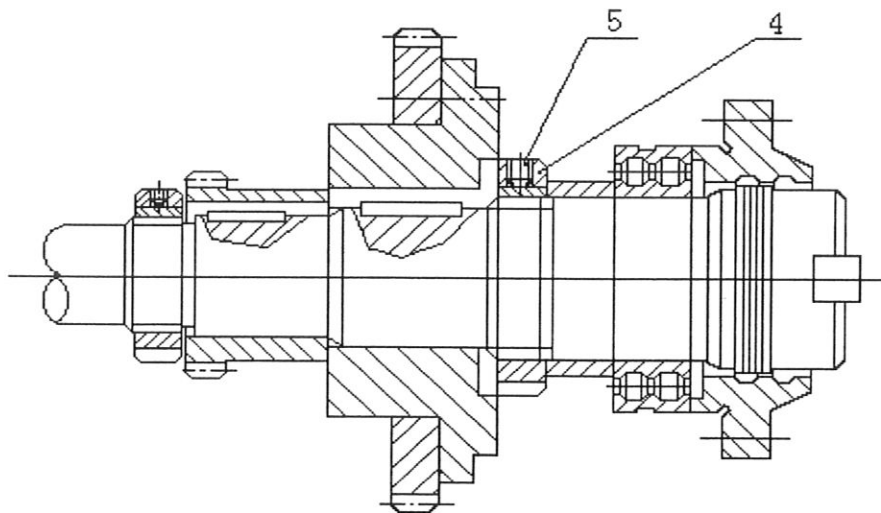

Fig.24 Adjustment of horizontal spindle
7.2 Adjustment of the spindle(Fig.24)